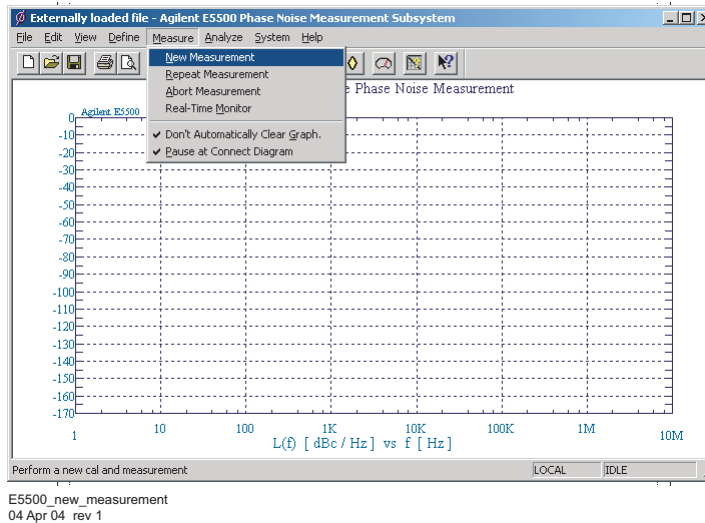

Figure 17 Selecting a new measurement
- 1 From the **Measure** menu, choose **New Measurement**. See Figure 17.